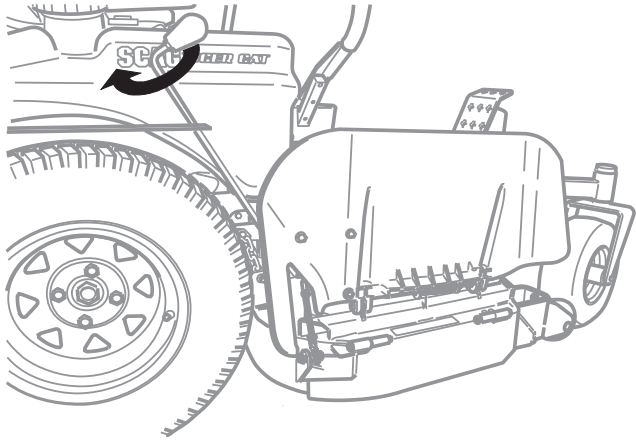

**Figure 2-1. Moving from Open to Closed Position**
1. Rotate the OCDC control handle inward to lock the OCDC into the closed position. See Figure 2-1. The discharge chute will raise to allow for close trimming.